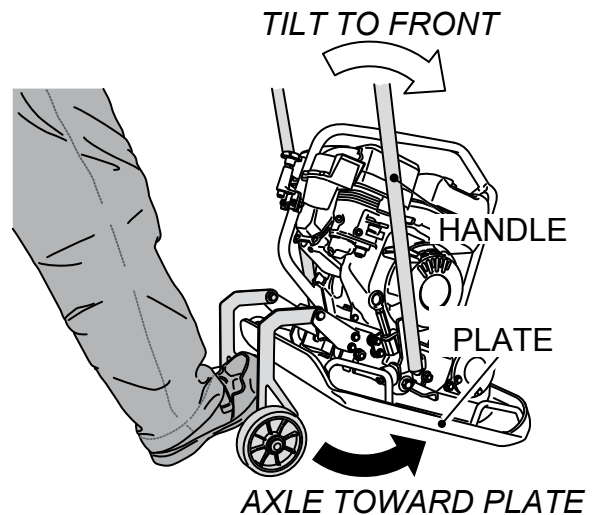

Figure 11. Deploying Axle
6. Push the handle forward to lift up the rear of the compactor from the ground. Place foot on top of axle bar and slide the axle under the plate (Figure 11).